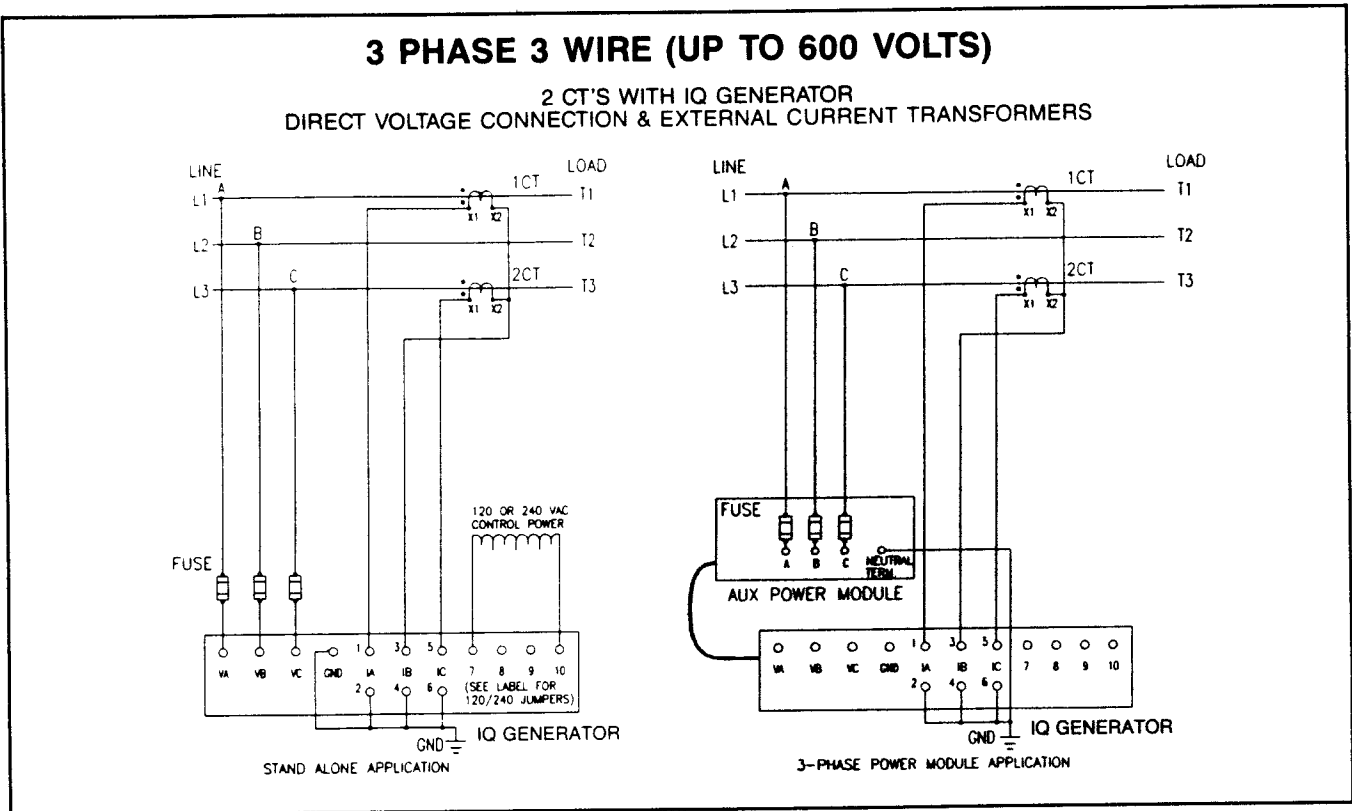

Figure 4.4A — Wiring Diagram
2.1.3 External Hardware — Each IQ Generator requires current transformers be wired into the CT Terminal Block from an external location (see Figures 4.4A – 4.4F). These are user-supplied and must have a 5 ampere secondary.
A typical wiring plan is shown in Figures 4.4A thru 4.4F. Observe the Figures and note the following: